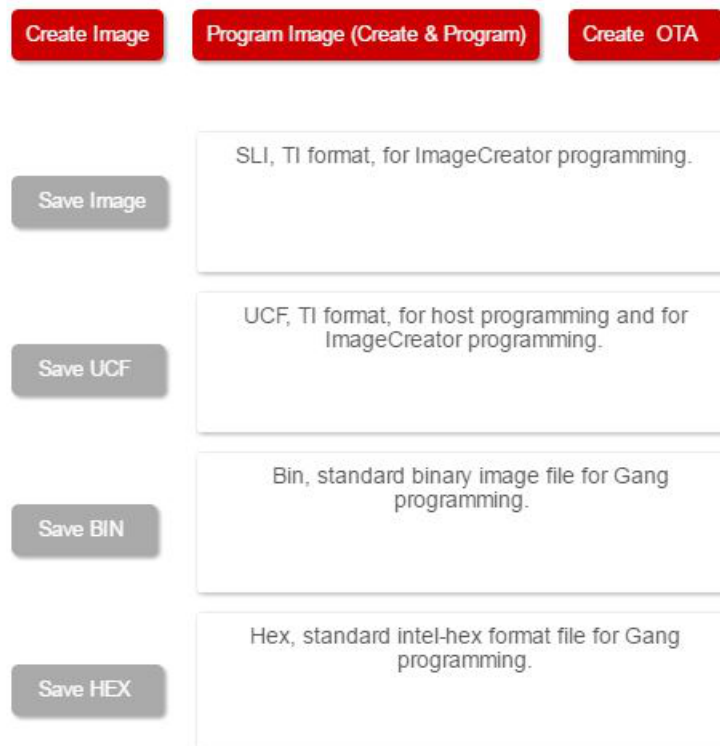

Figure 3-18. Generate Image
- Click on Program Image (Create & Program), as shown in Figure 3-18. This step might take a minute.